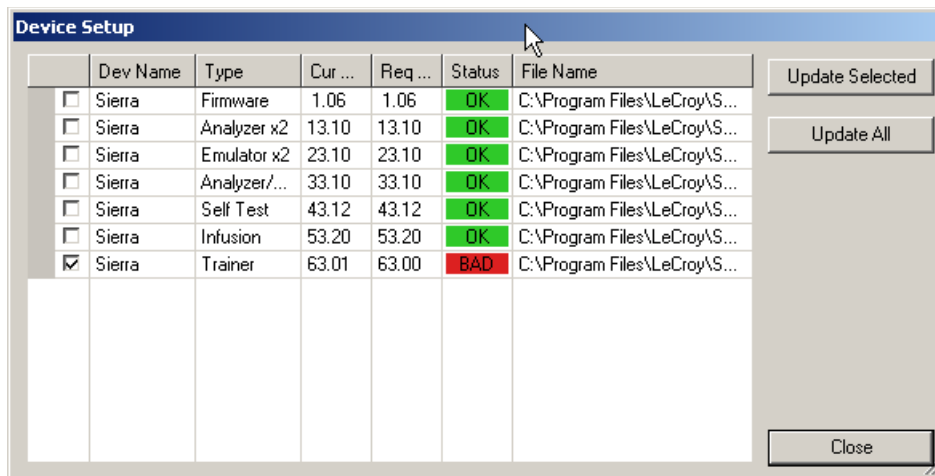

Figure 3.170: Device Setup Dialog with BAD Device Status
1. Click **Setup > Update Sierra Device** to display the Device Setup dialog (see Figure 3.170 on page 257).